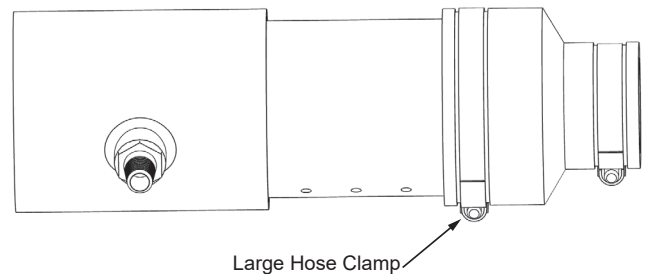

Figure 26. Intake Air Tee Fitting - Side View
3. Loosen the large hose clamp on the Fernco coupling that connects the intake-air connection pipe to the combustion blower. See **Figure 26** (page 33).